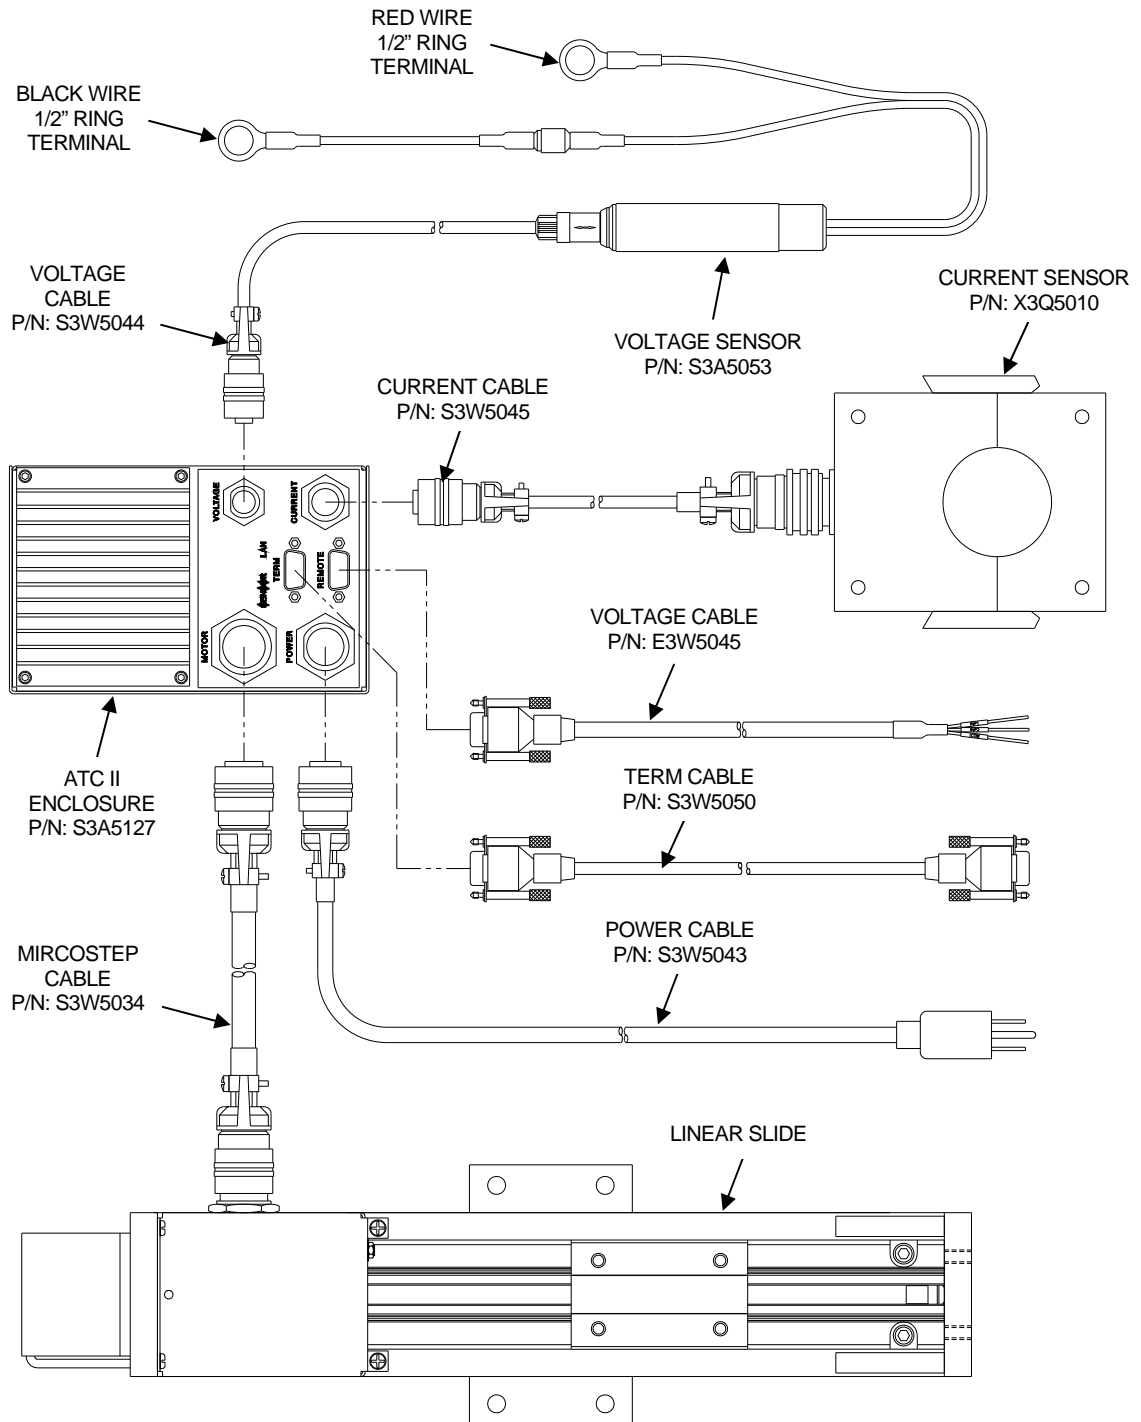
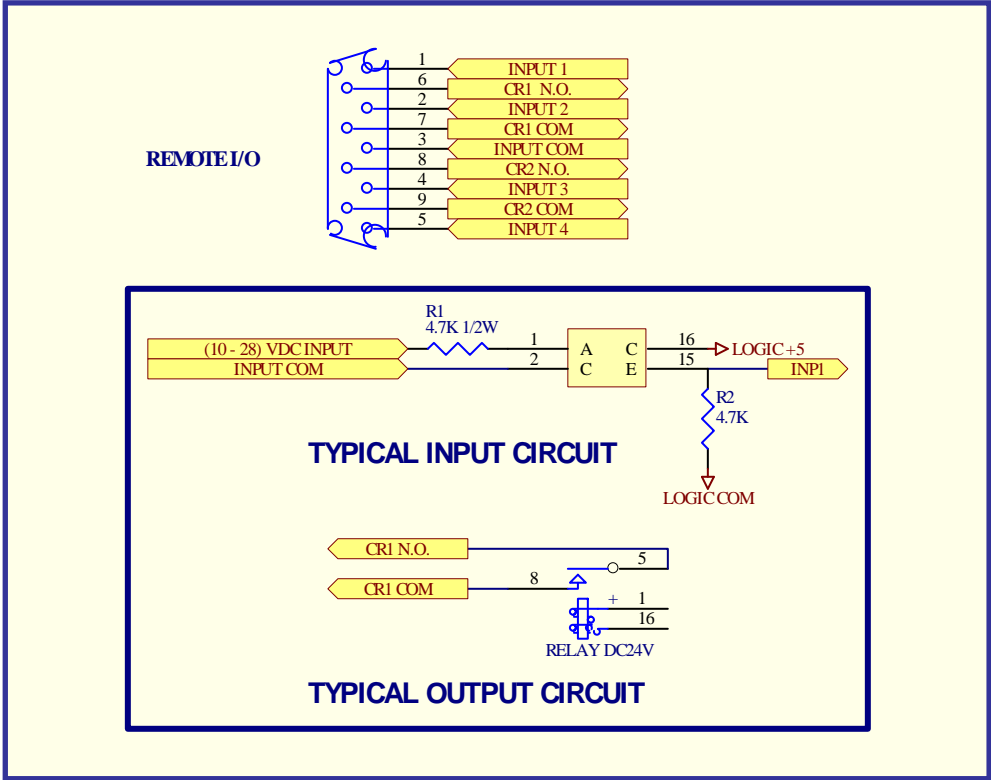

FIGURE 6 – System Layout
FIGURE 7 - Remote Input/Output Configuration
- If the ATC II is to be used to control the welding power source connect the **Remote Control Cable** to DB9 I/O connector on the rear panel of the ATC II (Fig 6). (Remote Control Cable is not part of the base unit and must be purchased separate) Refer to Appendix D for samples interconnect drawings for various weld power supplies.
- Connect the **Power Cable** to the rear mating POWER connector on the rear panel of the ATC II (Fig 6).
The ATC Control has a DB-9S remote control connector located on the rear panel of the ATC II (Fig 6). The remote inputs can be used to provide remote control of the ATC II and the outputs can be used to control a device through the ATC II (such as Power Source Weld Contactor to start the weld process). These functions are based on the configuration of the ATC II PLC Program. Figure 7 shows the pin-out for the remote connector and the Input/Output configuration for the I/O port.